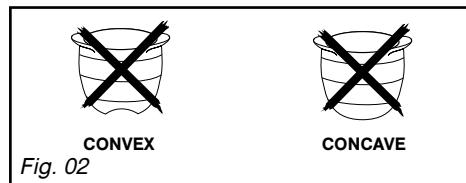

Fig. 02
- Do not use cookware with a concave or convex bottom (Fig. 02).